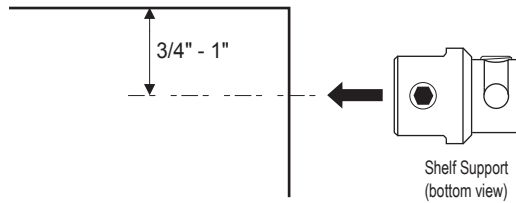

fig 1
1) Attach a clamp support to each corner of the glass shelves at 3/4"-1" distance from edge (fig 1).